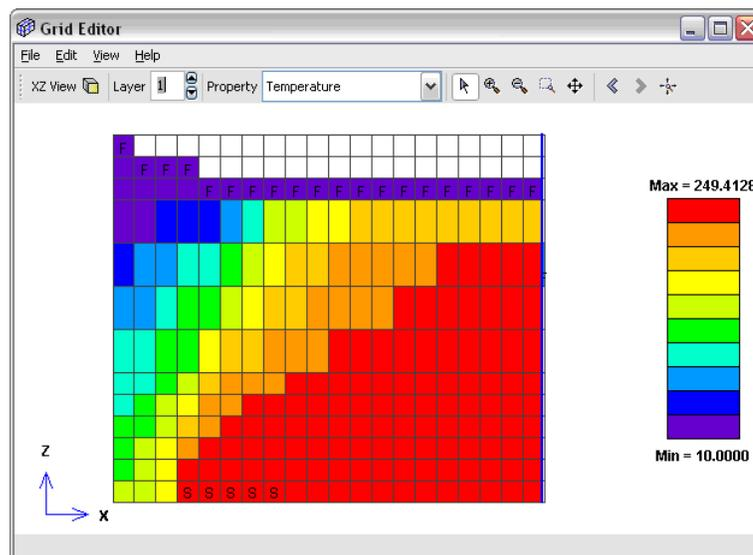

Figure 3.15. The grid editor with temperature as the display variable
4. The display will show the temperatures from the initial state analysis, Figure 3.15.